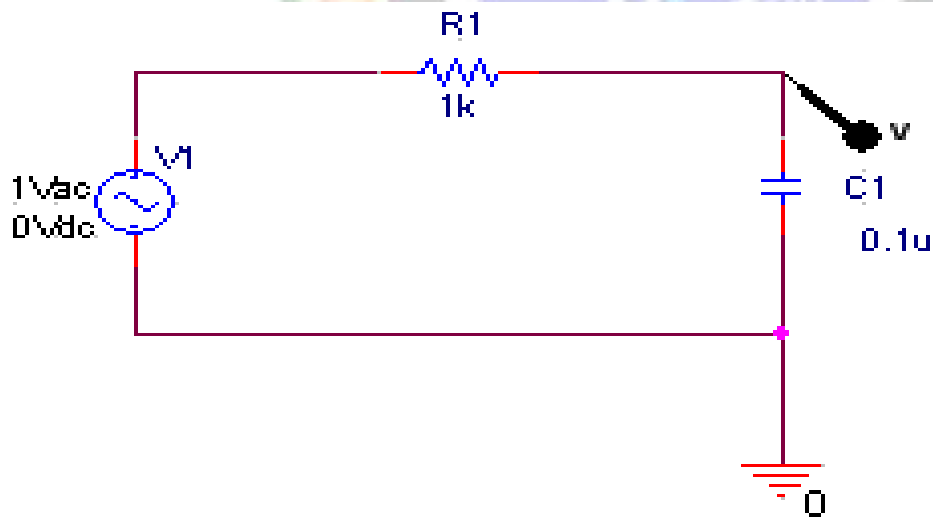
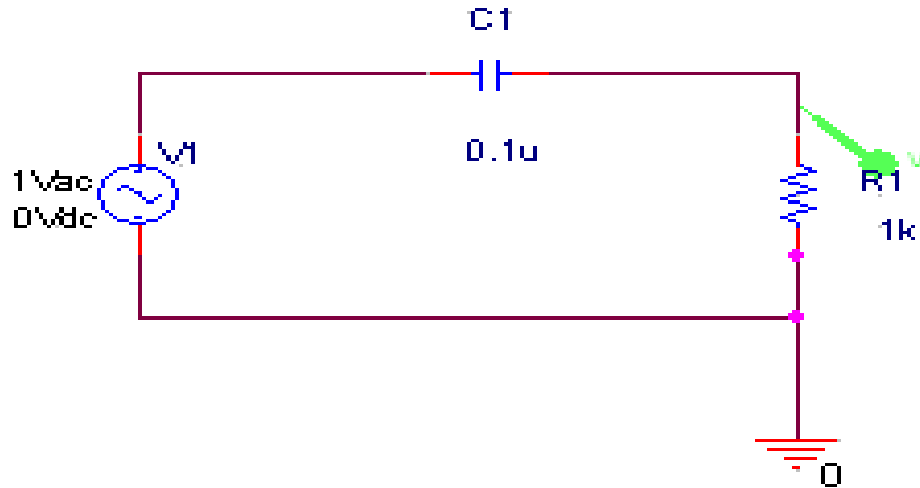

Fig.1.Low Pass Passive Filter
Fig.2.High Pass Passive Filter
1. Build the schematic shown in Figure 1.
- Build the schematic shown in Figure 1 and figure 2.